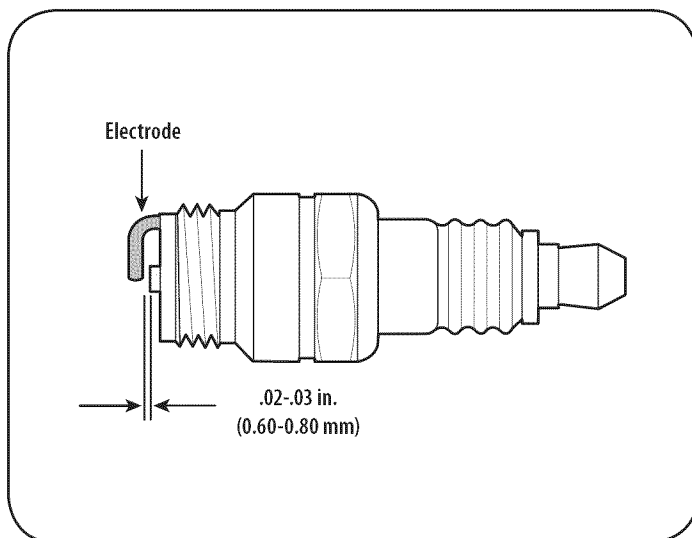

Figure 15
3. Measure the plug gap with a feeler gauge. Correct as necessary by bending side electrode. See Figure 15. The gap should be set to .02-.03 inches (0.60-0.80 mm).